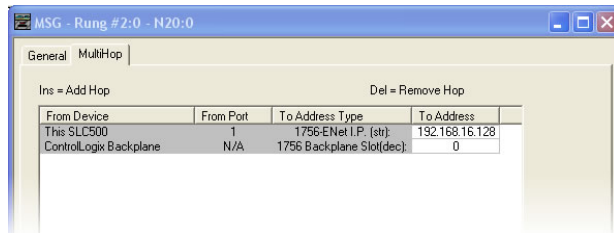

Figure 118: MSG Configuration, "MultiHop" Tab
- e) Under the "MultiHop" tab settings, set the "To Address" in the first row to the inverter's IP address, and the "To Address" in the second row to 0. Refer to Figure 118.